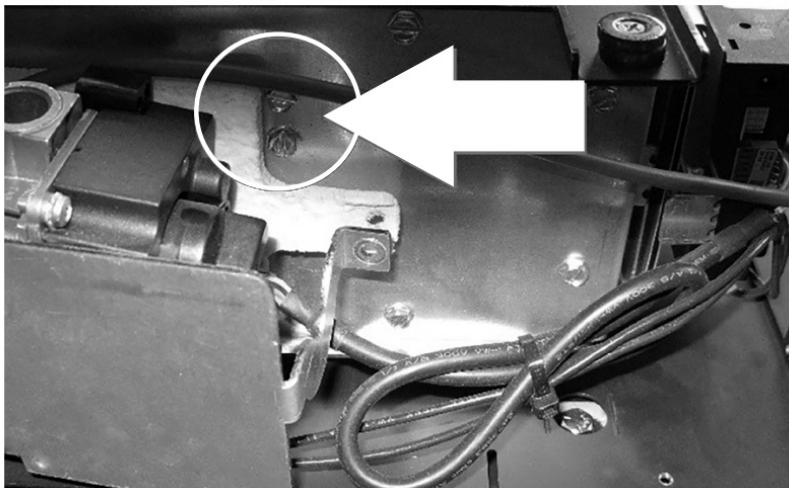

Figure 5
5. Figure 5 shows the 2 screws on the right underside of the firebox, remove these screws. A 5/16", 6" or longer nut driver will make removal of these screws easier. Keep these screws in a safe place as they will be needed to install the Logset burner.